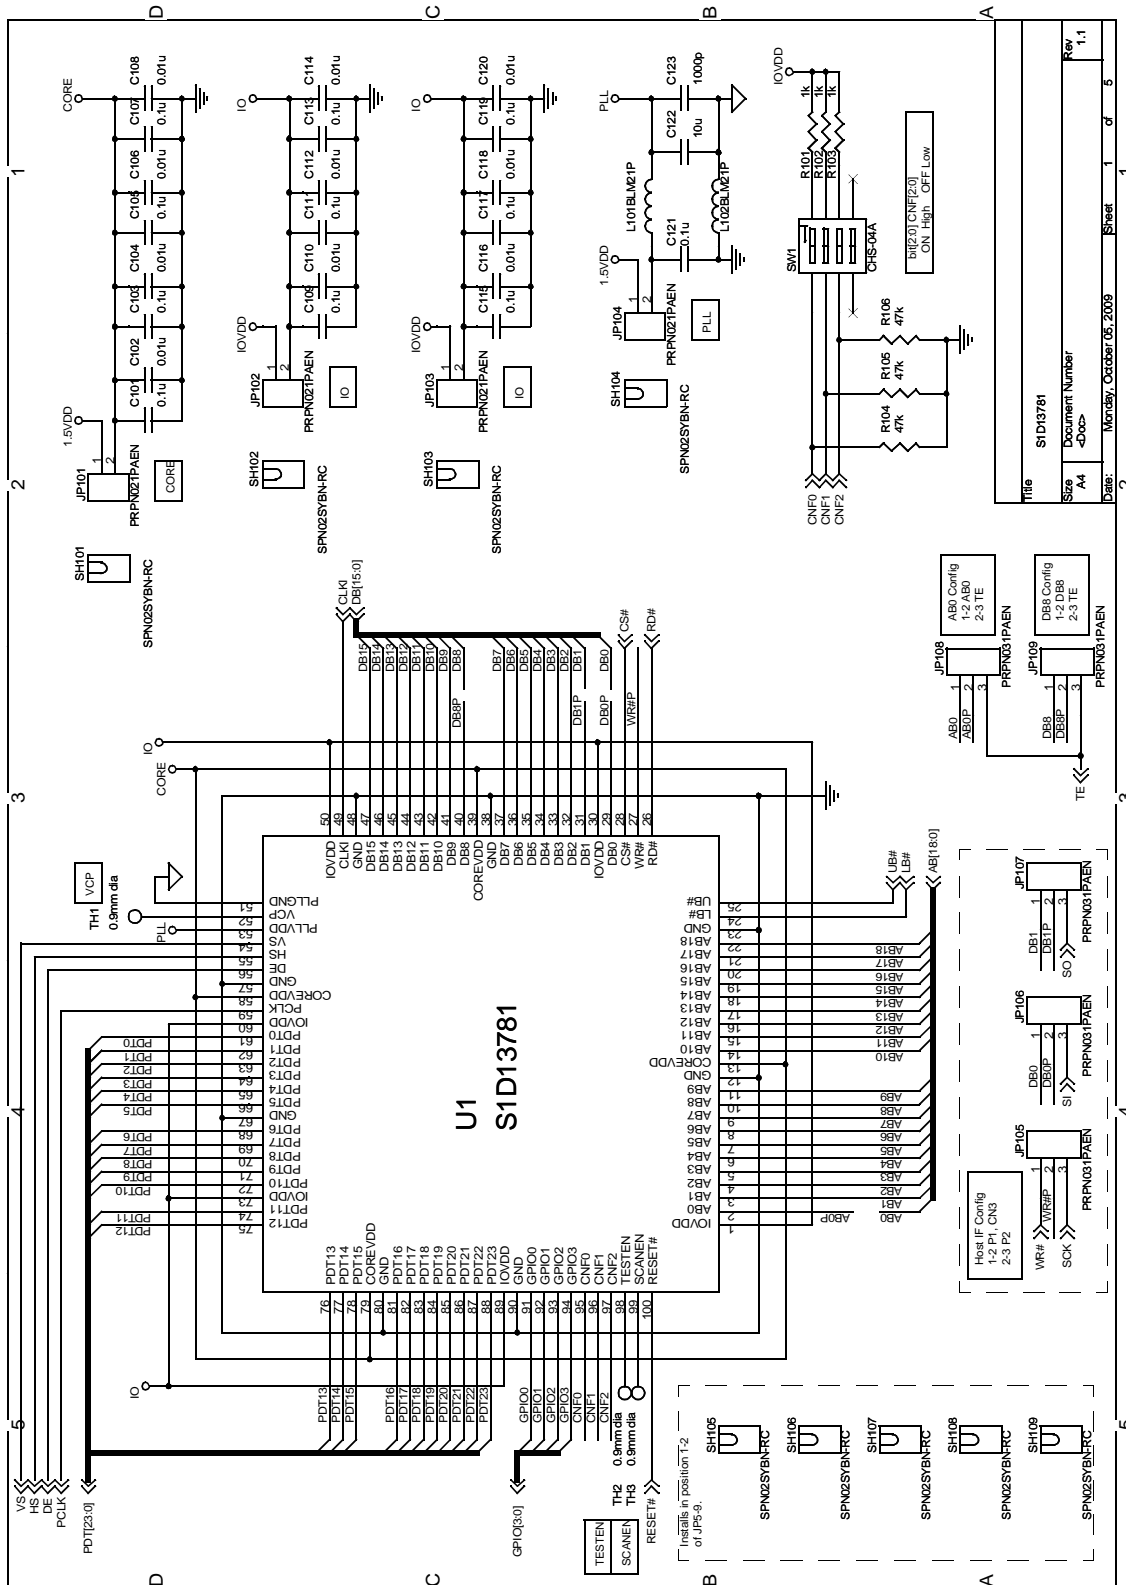

Figure 7-1: S5U13781P00C100 Schematics (1 of 5)
- chapter 7 Schematic Diagrams - change settings for “Host IF Config” in figure 7-1, *S5U13781P00C100 Schematics (1 of 5)*